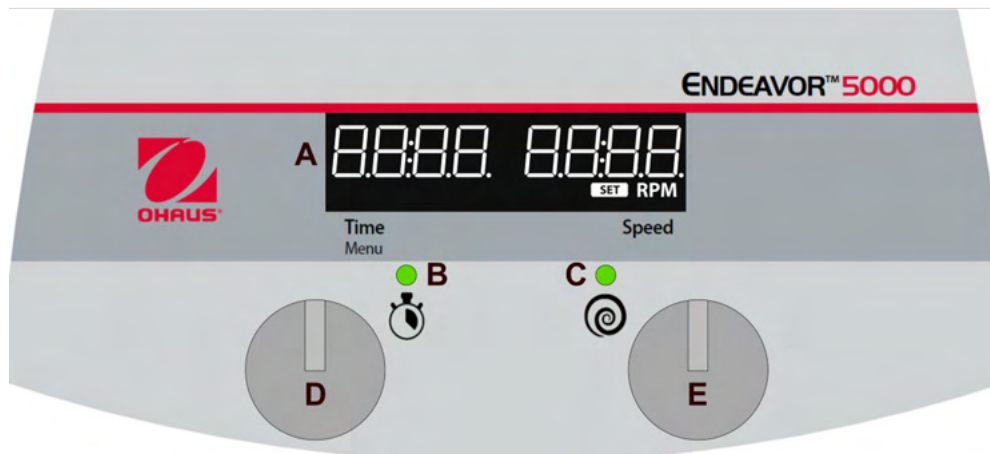

Figure 1: Endeavor 5000 Digital Control Panel
2. When the timer is set to any time between 00:01 and 99:59, the timer will count downwards from the set time once the shaking function is turned on and the **Timer Status indicator Light (B)** will be illuminated.
- c. Once the timer reaches 00:00 in the countdown mode shaking functions will shut off, the unit will beep 1 time and “End” will appear on the display (A, Figure 1).
1. Rotate the Time Adjustment Knob (D, Figure 1).
- c. Quick press the **Time Adjustment Knob (D)** to select the minutes value
- e. Rotate the **Time Adjustment Knob (D)** to adjust the hours value
- f. Quick press the **Time Adjustment Knob (D)** to confirm hours value and the timer setting
1. Rotate the **Speed Adjustment Knob (E, Figure 1)** to the desired setting
1. Press and hold the **Speed Adjustment Knob (E)** until the unit beeps and the **Run Status Indicator (C, Figure 1)** illuminates.
- While in Idle Mode, press and hold the **Time Adjustment Knob (D)** until "MENU" is displayed
- Quick press either the **Time Adjustment Knob (D)** or **Speed Adjustment Knob (E)**.
- To select a recall run condition, press and hold the **Speed Adjustment Knob (E)** until the unit beeps and the **Run Status Indicator (C, Figure 1)** illuminates.